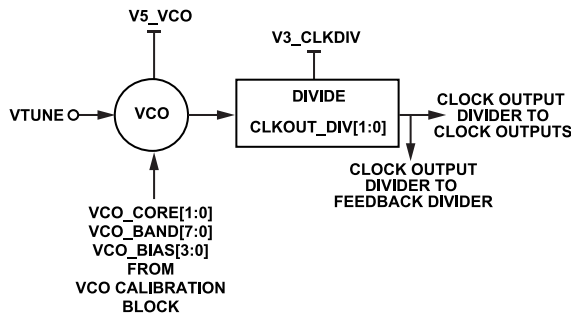

Figure 74. VCO and Clock Output Divider
The VCO core consists of four separate VCOs, each of which uses 256 overlapping bands, which allows the device to cover a wide frequency range without large VCO sensitivity ( $K_{VCO}$ ). The output frequency can be further extended by utilizing the output divider (see Figure 74).
A 2-bit divider, CLKOUT\_DIV, in Figure 74 is used to reduce the frequency seen at the output buffer and feedback divider. The clock output divide value (O) may be set to 1, 2, 4, or 8. Use the CLKOUT\_DIV bit to directly program the divide ratio. CLKOUT\_DIV is located inside the PLL loop. Therefore, any change to CLKOUT\_DIV requires a change to the N\_INT bit fields, Bits[11:0] to maintain the same fPFD and results in the PLL losing lock for a few loop time constants. For more information, see Table 18. For the relationship between the fREF, fPFD, fVCO, and fOUT frequencies, see the Output Frequency section.